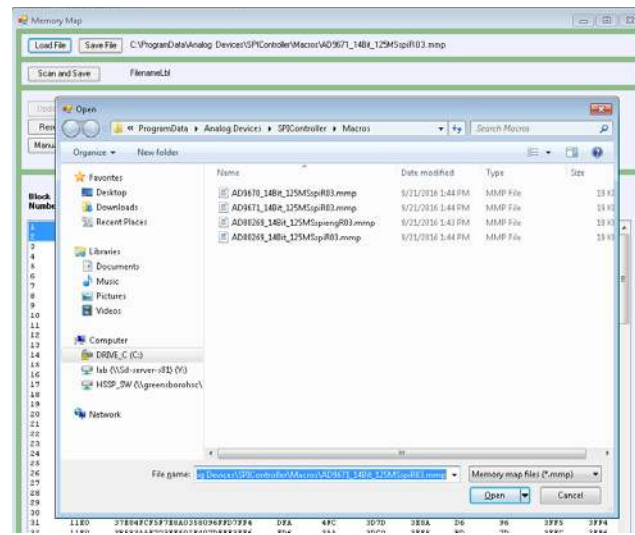

Figure 9. Memory File Select Dialog Box
- On the **Config** menu at the top of the **SPIController** window, click **Launch Memory Map Dialog**. This command starts the memory map shown in Figure 11, as well as a way to select prestored demodulation and decimation profiles. Click **Load File** to open the file **Open** dialog box, and select the **AD9671_14Bit_125MSspiR03.mmp** file to load the coefficient and profile memory onto the **AD9671** (see Figure 9).